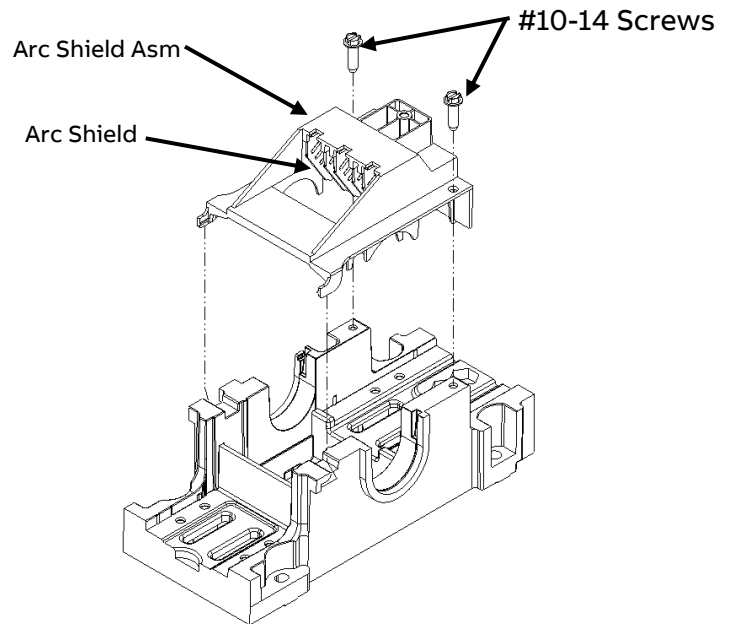

Figure 6. : Arc Shield Assembly THSHLD5A & THSHLD6A for Safety Switch
Arc Shield assembly to be mounted on Switch pole assembly by new qty (2) #10-14 screws with torque 15 in-lbs as shown in Fig 6.